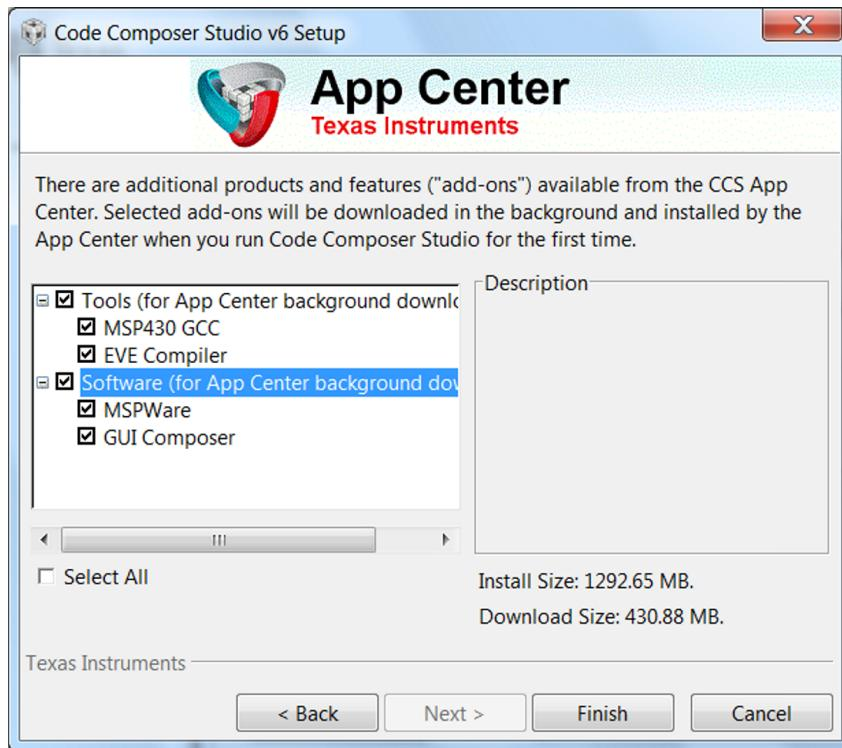

Figure 13. Emulators Available for Installation
Step 8. Review the installation and click the *Finish* button to finalize (see Figure 13).